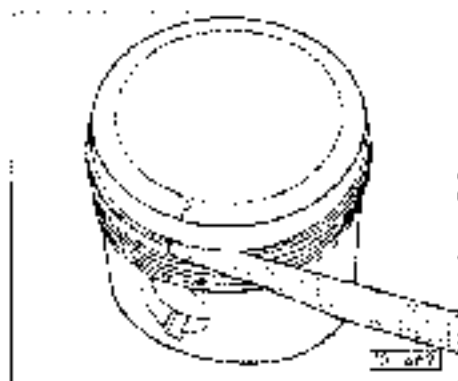

Fig. 3. Checking piston ring clearance in groove
- Checking clearance for pins on Fig. 3